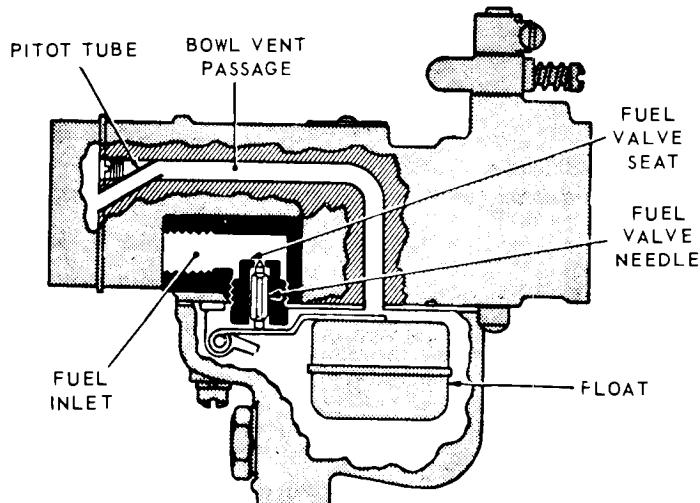

Fig. 1 FUEL SUPPLY SYSTEM
**OPERATION****FUEL SUPPLY SYSTEM (Fig. 1)**
Starting a cold engine requires a much richer mixture of fuel and air. Moving the choke lever to close the choke plate restricts the air entering the carburetor (except at the pitot tube, Fig. 1, to the bowl vent) and increases the suction on the idling system which makes the mixture richer.